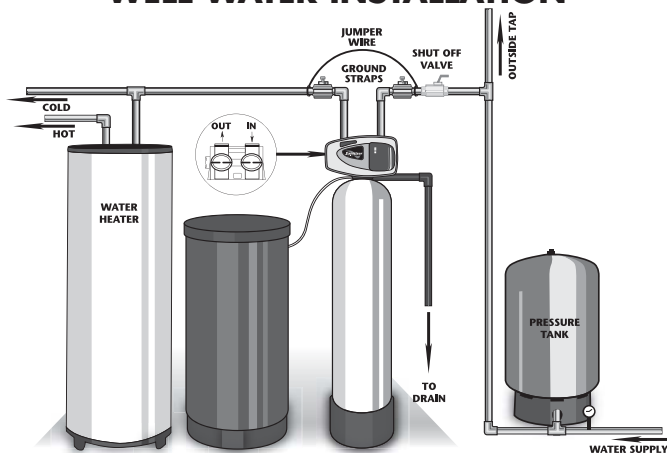
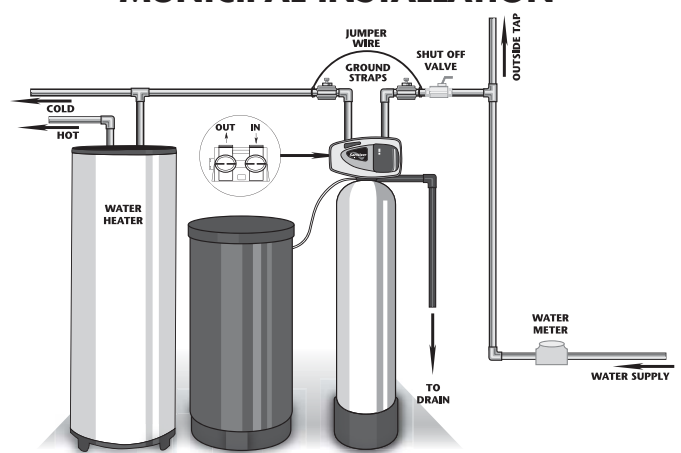

FIGURE 1
FIGURE 2
1. A selection site should be chosen for your conditioner. If you have a well system, this would be after the pressure tank but before the hot water heater (**Fig. 1**). If you have city water, install the softener on the inlet line to the building before the hot water heater (**Fig. 2**).